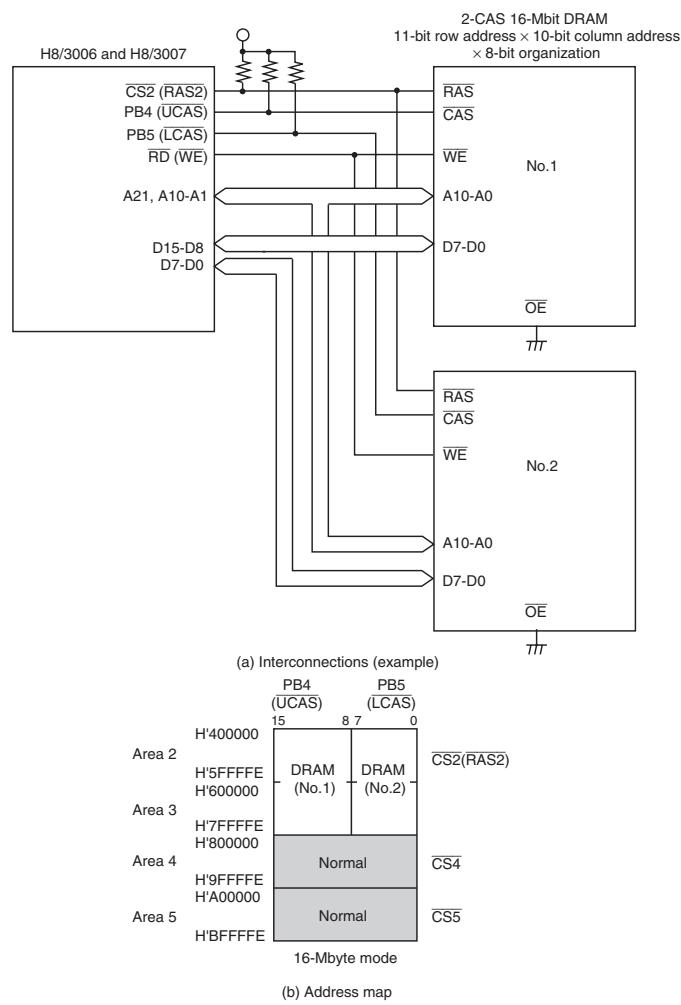

Figure 6.30 Interconnections and Address Map for 16-Mbit DRAMs with \times 8-Bit Organization
- Figure 6.30 shows typical interconnections when using two 16-Mbit DRAMs using a \times 8-bit organization, and the corresponding address map. The DRAMs used in this example are of the 11-bit row address \times 10-bit column address type. The $\overline{CS2}$ pin is used as a common \overline{RAS} output pin for area 2 and area 3. When the DRAM address space spans a number of contiguous areas, as in this example, the appropriate setting of bits DRAS2 to DRAS0 enables a single \overline{CS} pin to be used as the common RAS output pin for a number of areas, and makes it possible to directly connect large-capacity DRAM with address space that spans a maximum of four areas. Any unused \overline{CS} pins (in this example, the $\overline{CS3}$ pin) can be used as input/output ports.